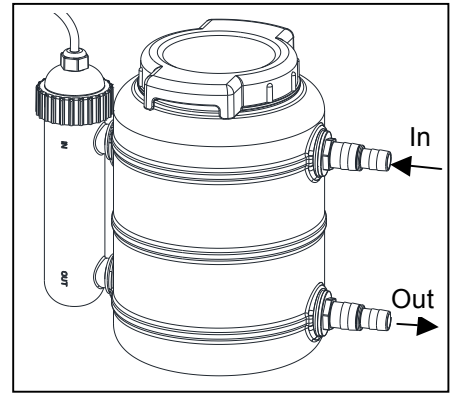

Fig. 12
12. Connect a length of tube from the outlet of a pump to the inlet of the filter (upper hole). Connect a length of tubing from the outlet of the filter (lower hole) to a water feature. Fig. 12